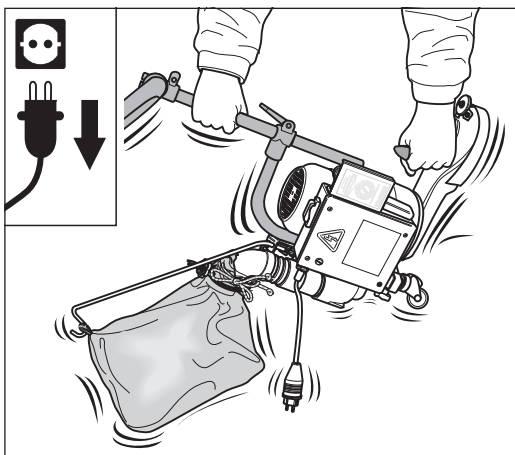

Fig. 52 Shake the machine so that the dust falls from the suction pipe stub into the dust bag.
- 3 Hold the UNICO firmly by the extension and by the machine handle. Shake the machine so that the dust falls from the suction pipe stub into the dust bag (fig. 52). Set the machine down on the floor again.